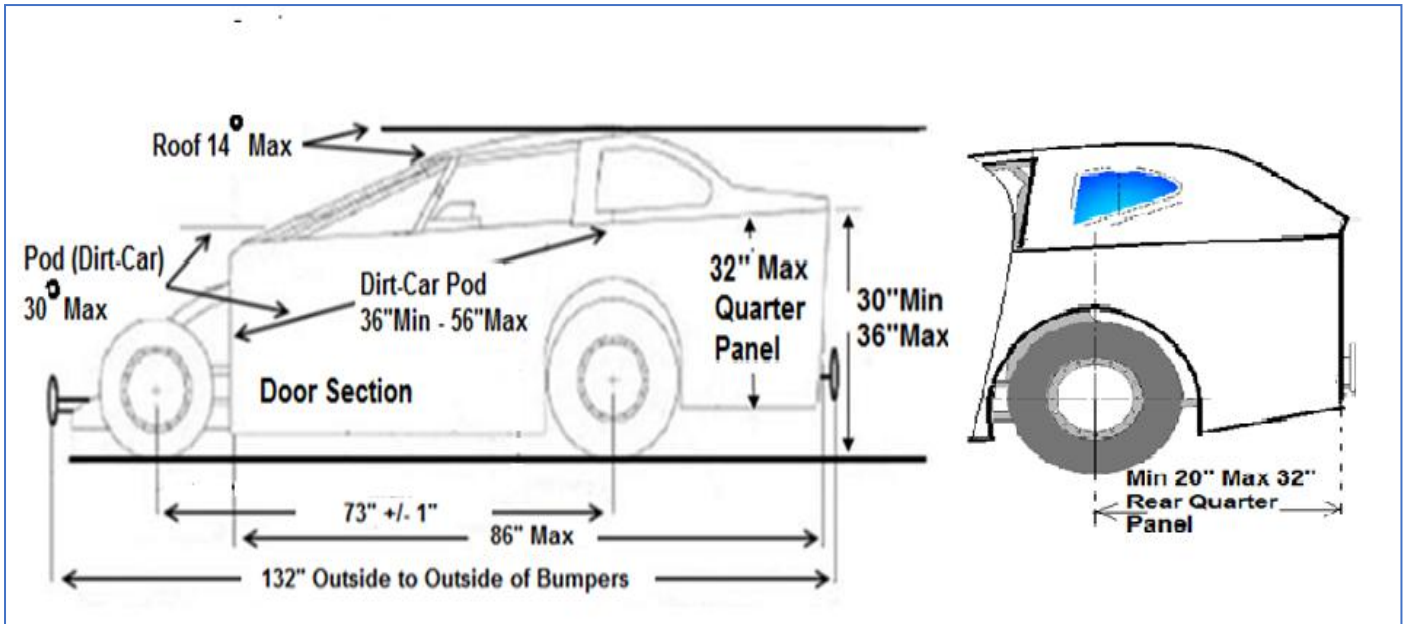

Figure 3
6.9 A wheelbase length of 73 inches (+ or -) 1 inch is allowed and must not be exceeded. When measuring the wheelbase, the front tire must be parallel with the rear tire with the measurement taken from the centre of front hub to the centre of the rear hub (*Figure 3*).
7.6 Front of door section to rear most point of quarter panel 86" max length (*Figure 3*).
7.7 Side height of top of rear quarter panel (deck lid) from the ground, 30" min 36" max (*Figure 3*).
7.8 Max height of quarter panel 32" (*Figure 3*).
7.11 Rear quarter length from centre of rear hub to rear of quarter panel must be 20" min 32" max (*Figure 3*).